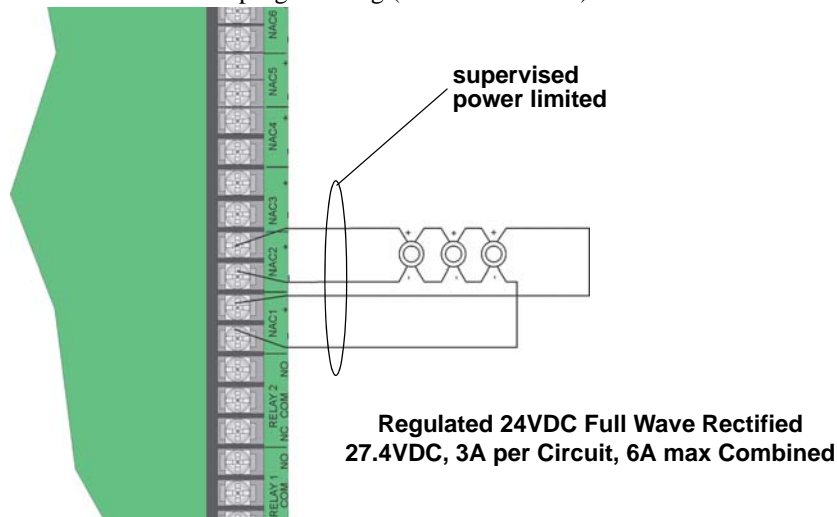

Figure 4-52 Class A Notification Appliance Circuit Configuration
1. Wire the Class A notification appliances as shown in Figure 4-52.
Note: In programming any point that uses multiple NAC circuits, the lowest circuit number is used to refer to the circuit pair. In this example, Figure 4-52 uses both NAC circuit 1 and 2, so in programming it would be referred to as point 1.